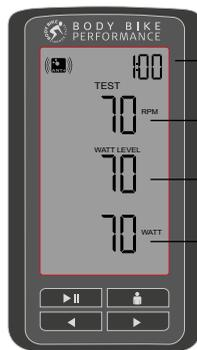

Figure 40
- 4) The top figure is your cadence. This should be as close to 70 as possible, see figure 40.
- 5) The middle figure is the watt you need to attain and the bottom figure is how many watt you are currently performing, see figure 40. Adjust the tension until you attain the watt prescribed in the middle figure. The arrows at the bottom left of the screen will tell you if you need to add more tension or release tension.
6) Every 2 minutes, the watt will increase by 35 watt. Adjust tension to match again. You can follow the time in the top right corner of the display, see figure 40.